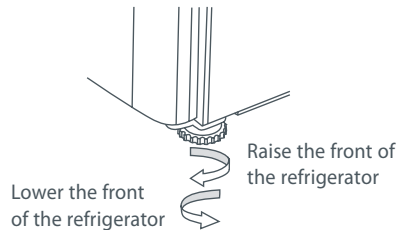

Fig.11 Refrigerator feet
- C** Adjust the front feet down until the refrigerator is leaning backward with the front approximately 10 mm ($\frac{1}{2}$ ") higher than the back. This will ensure a good door closing action. (Refer to Fig.11).